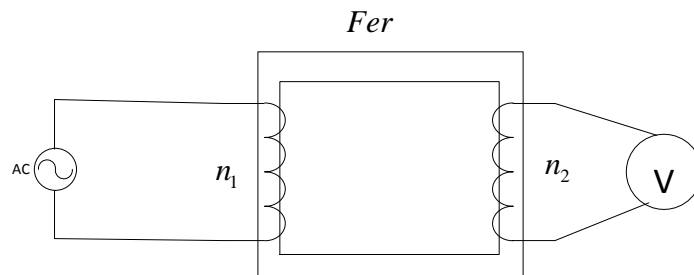

Figure 2
- Create the assembly shown in Figure 2.